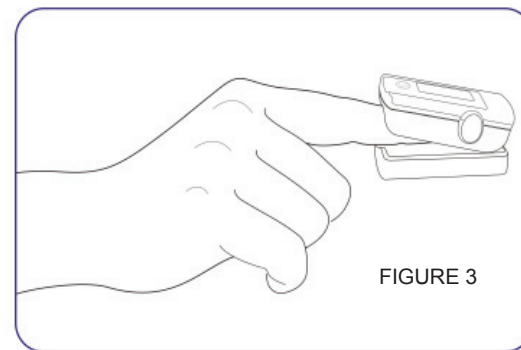

FIGURE 3
- Insert patient's finger into the View O2 Pulse Oximeter as indicated in Figure 3. Ensure finger is fully inserted, nail surface upward (until it reaches the built-in fingertip stop) and that it is centered in the device to ensure an accurate reading. For optimal results, a clean, unpainted or unbruised nail is recommended. The pulse oximeter is not recommended for use on thumbs or with neonatal or infant patients.